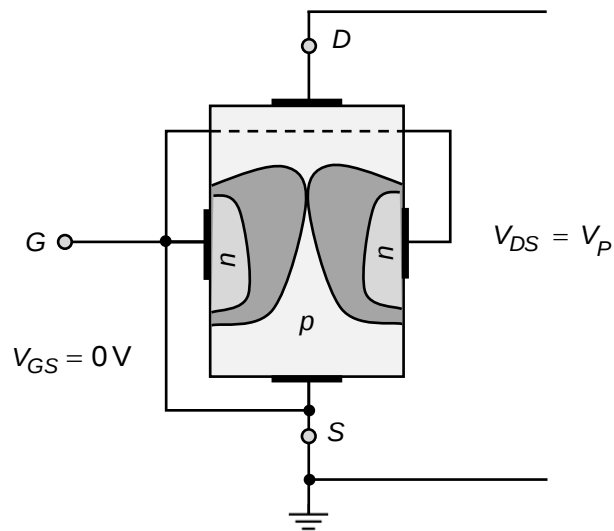

Fig. 3.22: Pinch-off in p -channel JFET; $V_{DS} = V_P$ and $V_{GS} = 0$ V.
7. Fig. 3.22 shows the pinch-off in a p -channel JFET.
Just as in an n -channel JFET, when V_{DS} is increased in a p -channel JFET, the reverse bias across the gate-source p - n junction increases and the widths of the depletion layers increase resulting in a reduced channel width. This decreases the path of conduction for holes, causing the resistance of the channel to increase. Eventually the drain current I_D saturates. After that it does not increase any further with an increase in V_{DS} . So when V_{DS} is increased to a value V_P such that the two depletion layers “touch” each other as shown in Fig. 3.22, pinch-off occurs in a p -channel JFET.